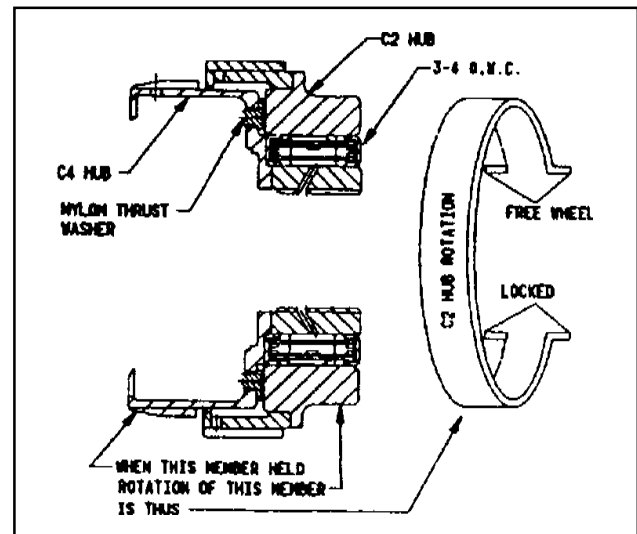

Figure 8.27 - C2 - Hub Rotation
29. Align the tangs and fit the nylon thrust washer onto the C4 hub. Refer to figure 8.27.
31. Check the rotation of the C2 hub. While holding the C4 hub, the C2 hub should rotate in the clockwise direction and lockup in the anti-clockwise direction when viewed from the C2 hub. Refer to figure 8.27.